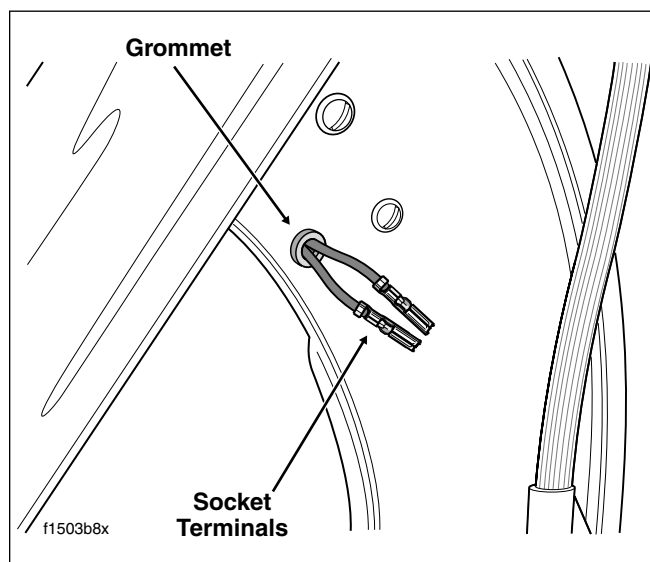

Figure 8-49. Pull Fender Tip Lamp Wires and Terminals Through Fender Grommet
8. Pull wires and socket terminals through grommet to inboard side of fender. See Figure 8-49. Reaching under left side of fender, draw wires forward out from beneath fender bracket.
10. Feed socket terminals and wires through grommet to outboard side of fender. See Figure 8-49.